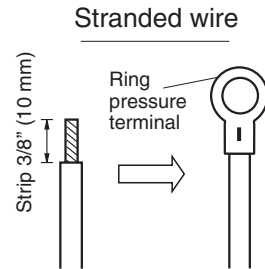

Fig. 1-3
- (1) Cut the wire end with cutting pliers, then strip the insulation to expose the stranded wiring approx. 3/8 inch (10 mm) and tightly twist the wire ends. (Fig. 1-3)
- (2) Using a Phillips head screwdriver, remove the terminal screw(s) on the terminal board.
- (3) Using a ring connector fastener or pliers, securely clamp each stripped wire end with a ring pressure terminal.